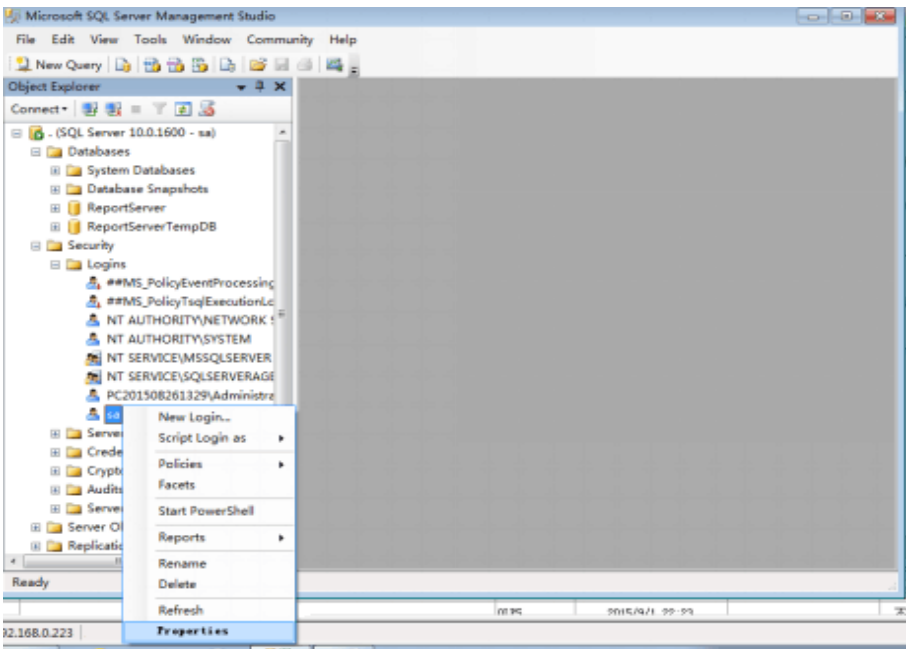

Fig.1.4 Microsoft SSMS
**Step Four:** Spread “Security”-> “Logins”-> “sa”, then right click “sa” and choose “Properties”(see Fig.1.4).